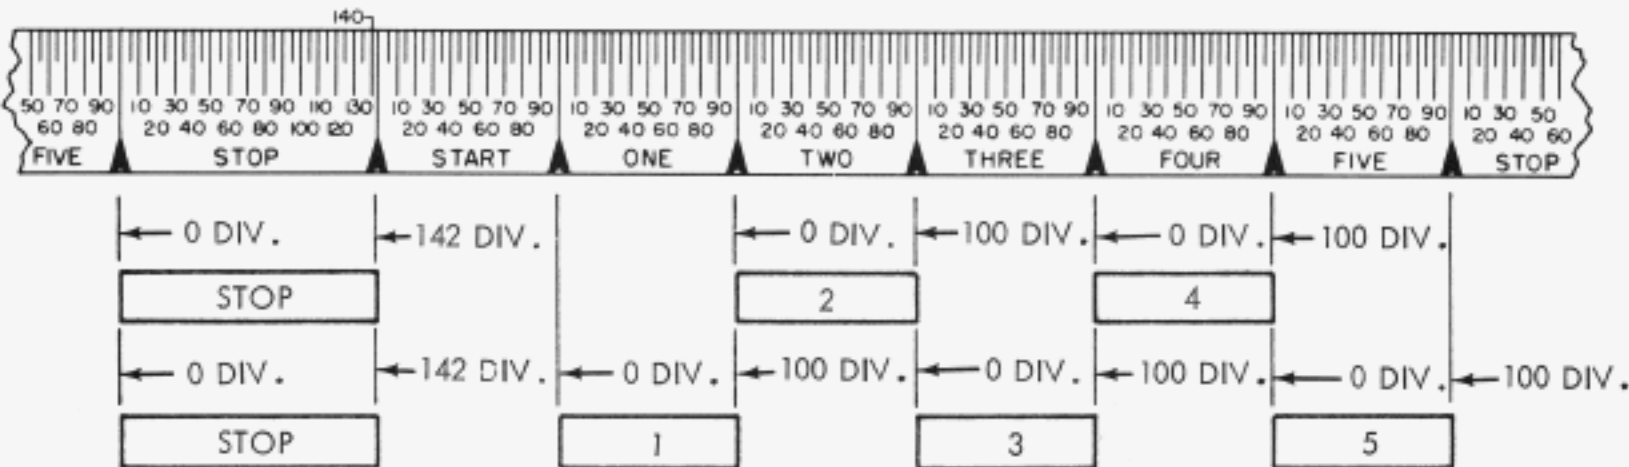

FIGURE 3. DISTRIBUTOR CONTACT REQUIREMENTS - 7.42 UNIT CODE
(4) Transmitter Contacts - 5 and 8 Level Unit (See Figure 3)